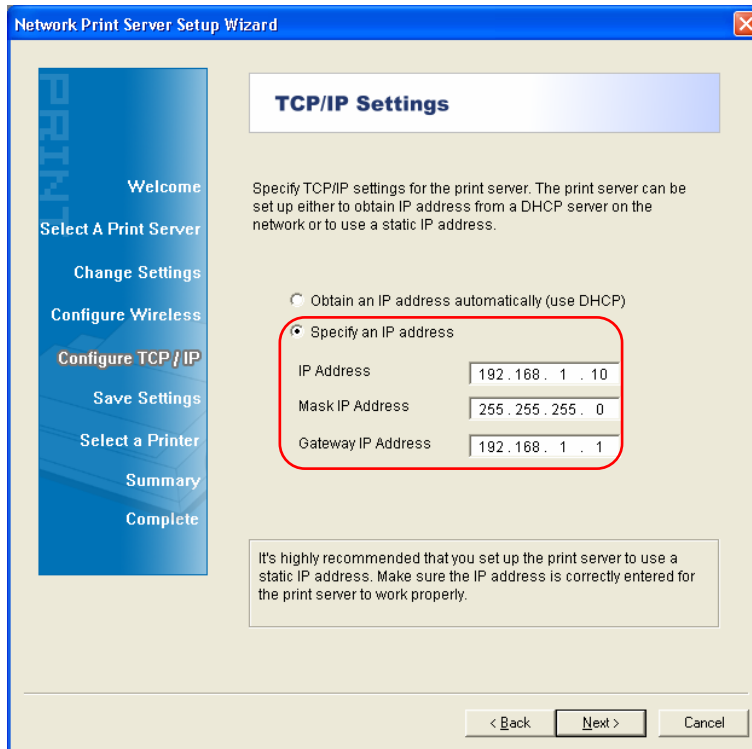

Figure 3-6
- Select **“Yes”** if you want to change the settings. The TL-PS110U is produced without password. Click **Next** and then appears **“TCP/IP Settings”** screen as shown in Figure 3-6. Proceed with the following steps.
6. On **“TCP/IP Settings”** page shown in Figure 3-6, check the **“Specify an IP address”** radio button, and then fill in the following parameters.